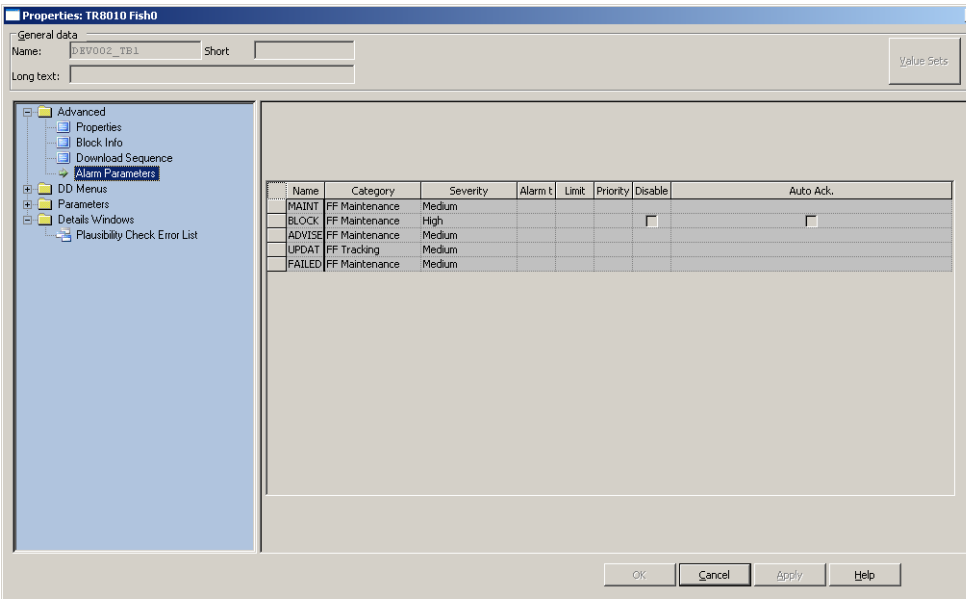

Figure 177. Alarm Parameters Tab
- c. enter alarm texts for FF Process alarms (refer to Figure 177).